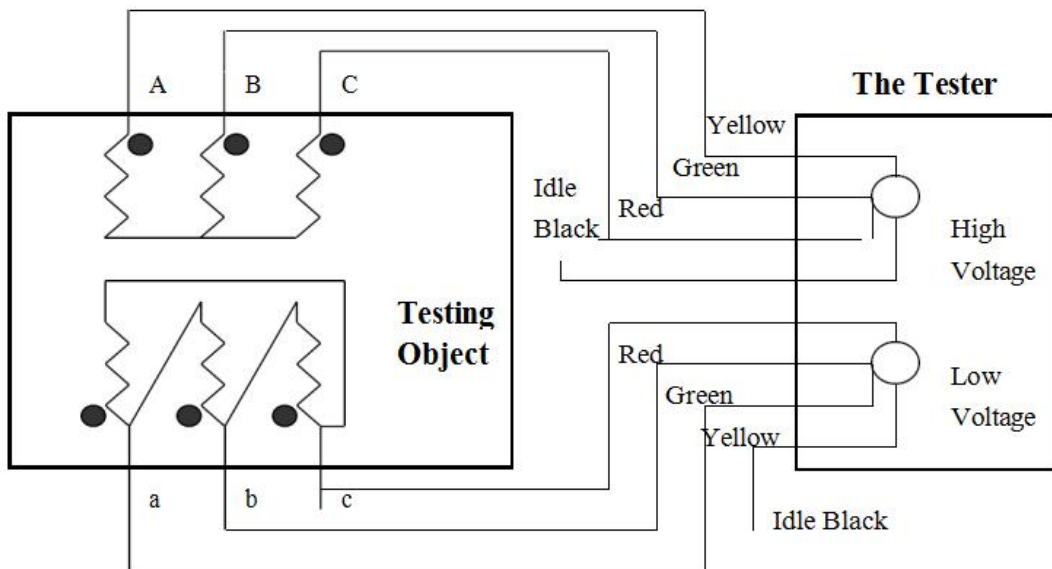

Figure 15
6、 Rectifier transformer and phase-shifting angle transformer, wired according to Figure 15